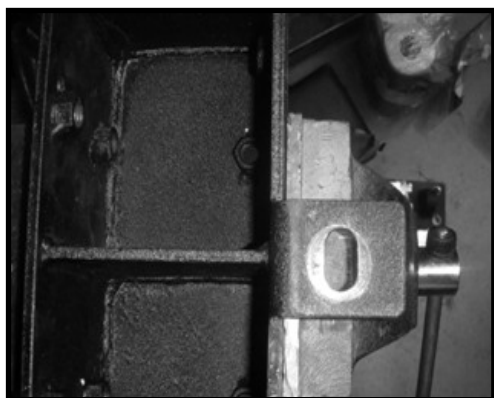
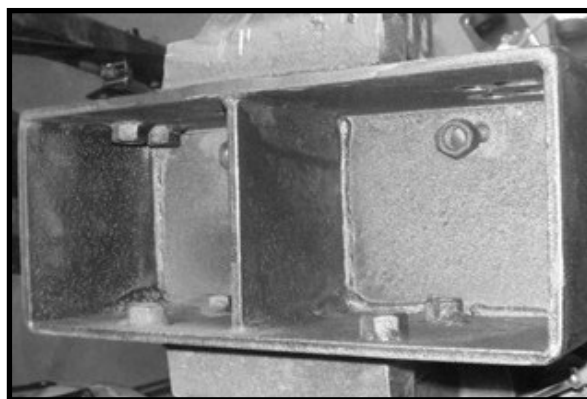

Figure 11.
Figure 12.
7. Using a cut-off wheel, remove the existing lower mounting tab (Figure 11) from the sub-frames (Figure 12). This is necessary in order to avoid interference with the leaf spring hangers.